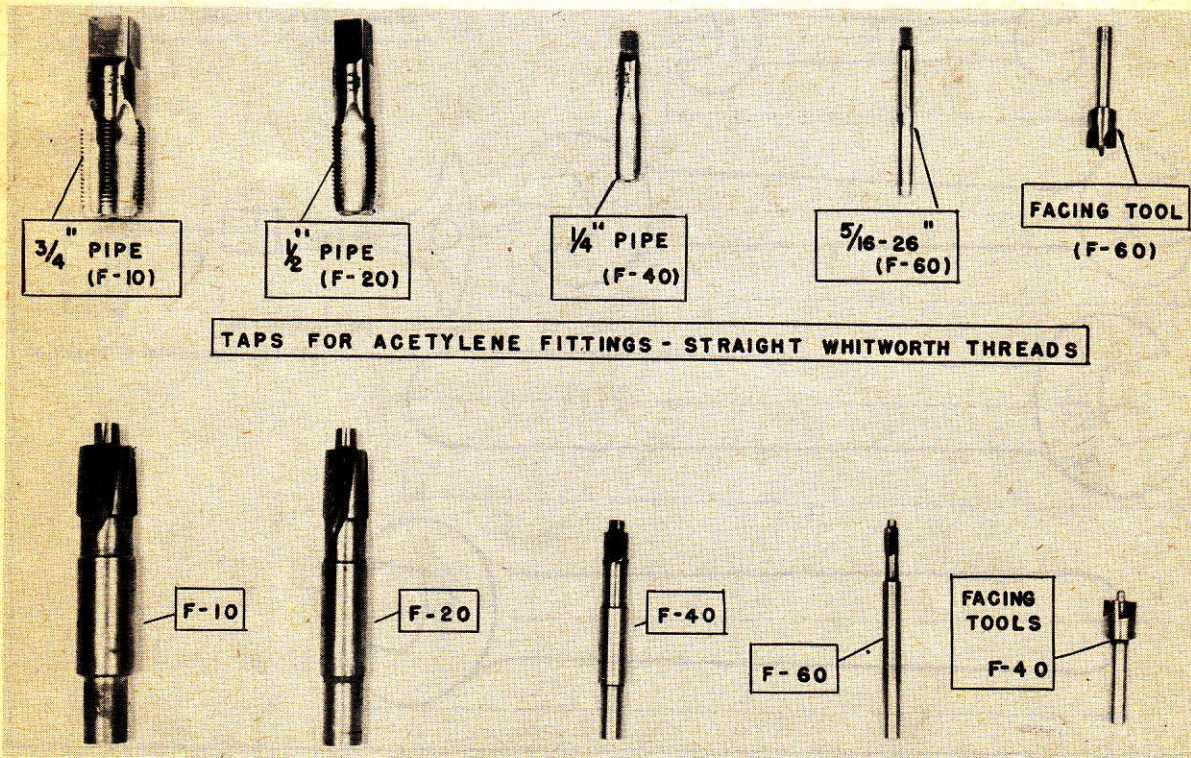

FIGURE 20-69.—Counterbores and taps for acetylene fittings.
A. Following is a list of taps, dies and counterbores used in the manufacture of acetylene fittings. (See fig. 20-69.)